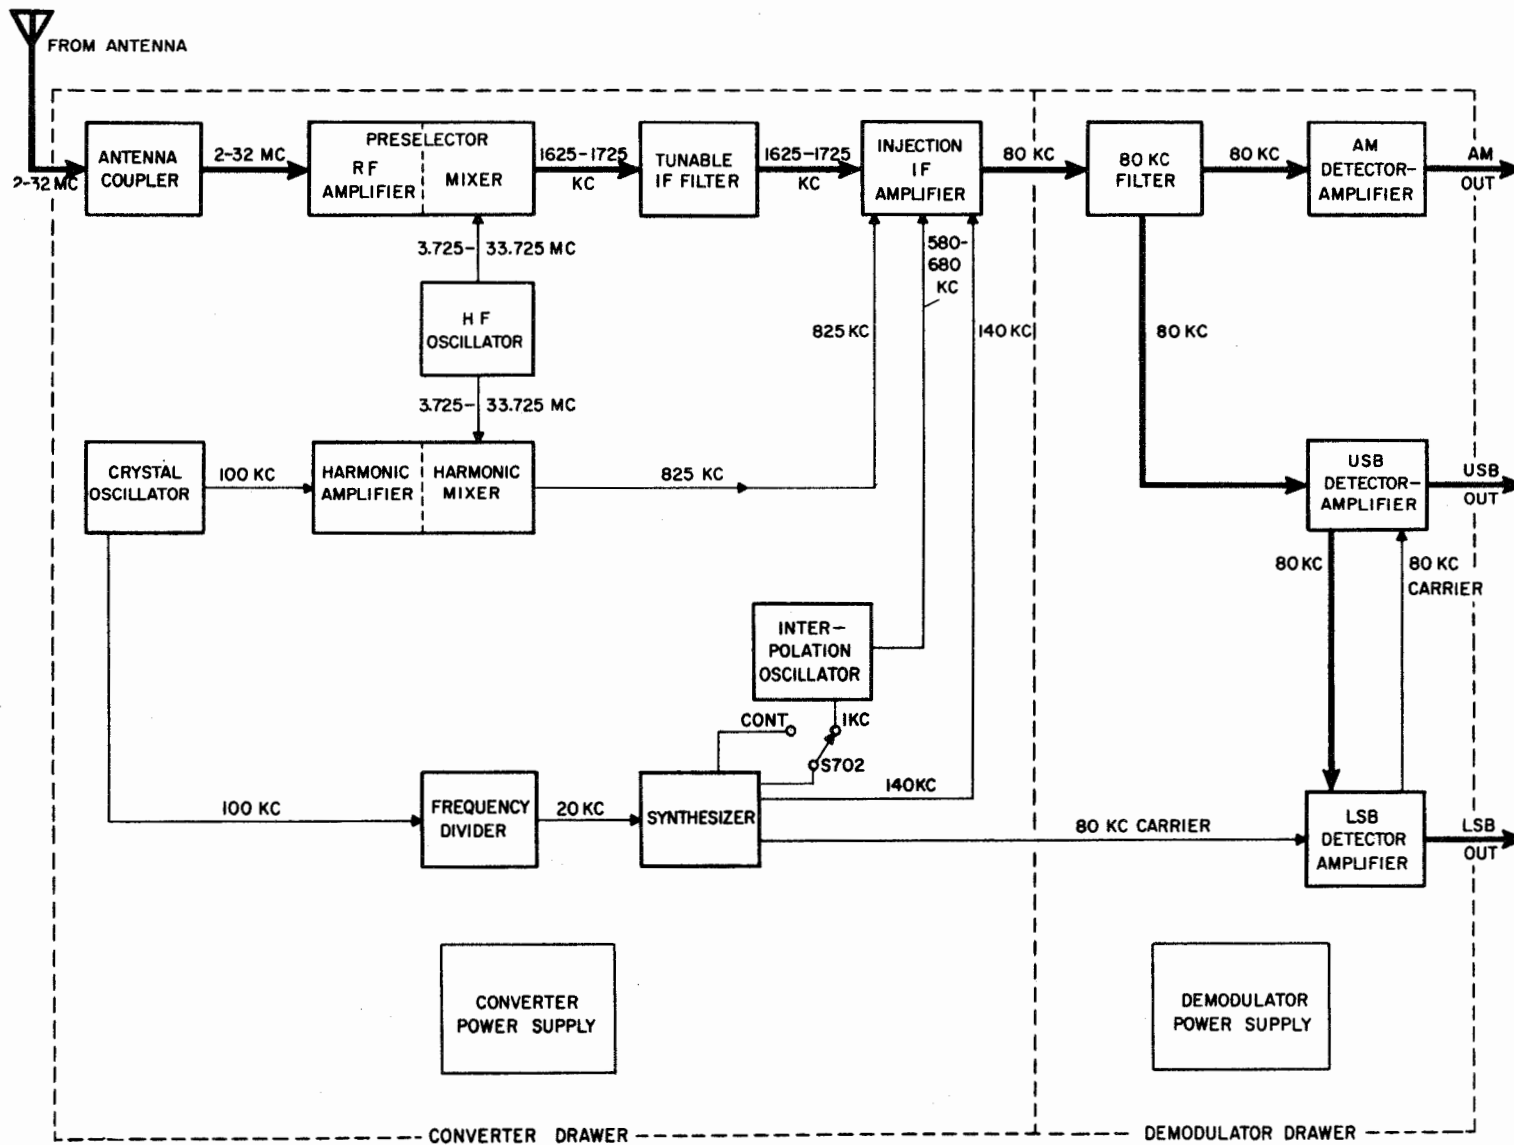

Figure 4-2. Radio Receiving Sets AN/WRR-2 and AN/FRR-59, Functional Block Diagram
c. FUNCTIONAL OPERATION.—Figure 4-2 is a block diagram showing the converter and demodulator as separate major units. The main signal path through the various assemblies is indicated by a heavy line.
(1) CONVERTER.—An RF signal from the antenna is applied to the antenna coupler, which provides three degrees of signal attenuation for optimum performance under strong signal conditions. The output of the coupler goes to the preselector, where it is amplified and applied to a mixer. Here it is combined with a locally generated RF signal from the high-frequency oscillator to produce the first IF signal at a frequency between 1,625 kc and 1,725 kc. This frequency is selected by the tunable IF filter and applied to the injection IF amplifier, which in turn produces the 80 kc signal to be applied to the demodulator. The injection IF amplifier performs intermediate-frequency amplification and two frequency conversions—the first from 1,625-1,725 kc to 220 kc and the second from 220 kc to 80 kc.
(2) DEMODULATOR.—In the demodulator the 80 kc filter receives the signal and distributes it to the amplitude-modulated (AM) and upper-sideband (USB) detector-amplifiers. The latter supplies the 80 kc signal to the lower-sideband (LSB) detector-amplifier.
detected. Several stages of audio amplification follow. A beat-frequency oscillator (BFO) is also included for reception of CW signals. Audio limiting, silencing, and automatic gain control (AGC) circuits are also included but are not shown in figure 4-2.
(b) USB DETECTOR-AMPLIFIER.—In the USB detector-amplifier the 80 kc signal is amplified and applied to a ring-type demodulator where it is mixed with an 80 kc carrier to produce an audio output. A two-stage audio amplifier, a silencing circuit, and an AGC circuit are also included but not shown in figure 4-2.
(c) LSB DETECTOR-AMPLIFIER.—In the LSB detector-amplifier the 80 kc signal is amplified and also applied to a ring-type demodulator, similar to that in the USB. A two-stage audio amplifier, a silencing circuit, and an AGC circuit are also included but not shown in figure 4-2.